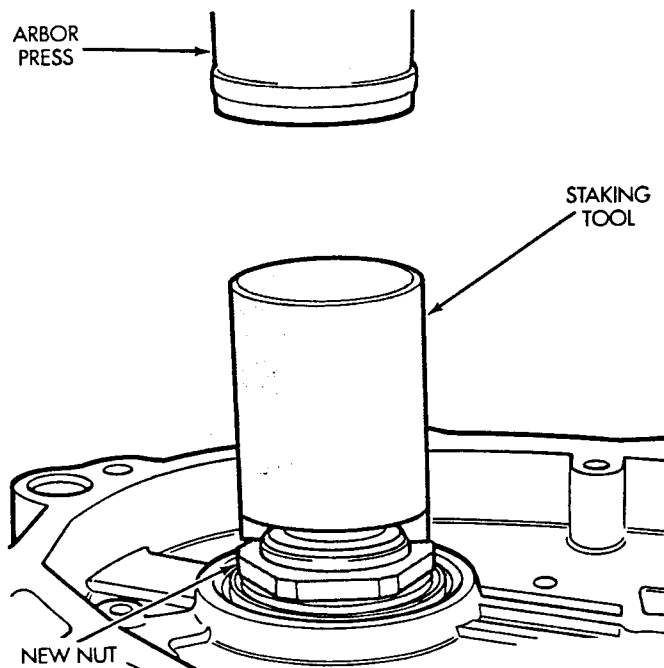

Fig. 7 Staking Output Shaft Nut
(9) The new nut must be staked after the correct turning torque is obtained. Use special tool 6639 to stake output shaft nut and special tool 6589 to stake transfer shaft (Fig. 7 and 8).